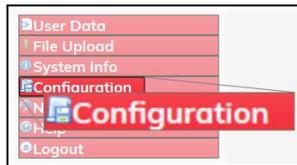

Figure 279: Configuration link
4. On the **Menu** list, click the **Configuration** link. Figure 279